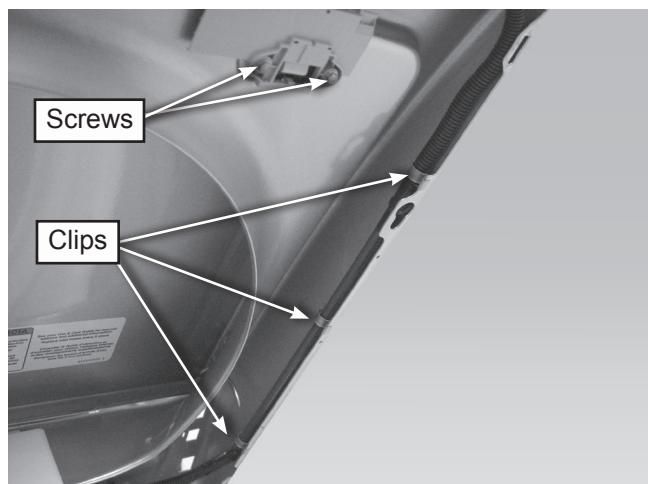

Figure 2
5. Remove the two (2) mounting screws securing the switch to the top, see figure 2.
7. Unclip the harness from the top, see figure 2.